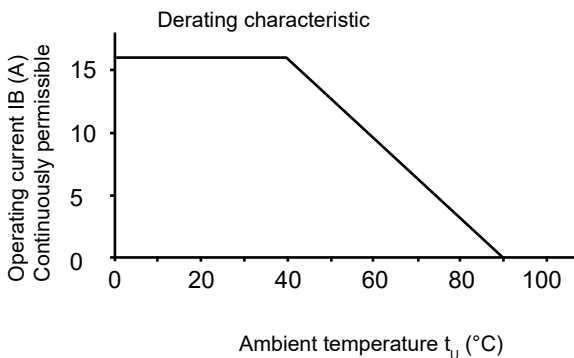

Fig. 2
- 1) The indicated current applies only for a reference temperature of 45°C for type Z KC X. Ampacity for higher reference temperatures with connected cable diameter of 1.5 mm2 for plug connector Z KC X according to fig. 2